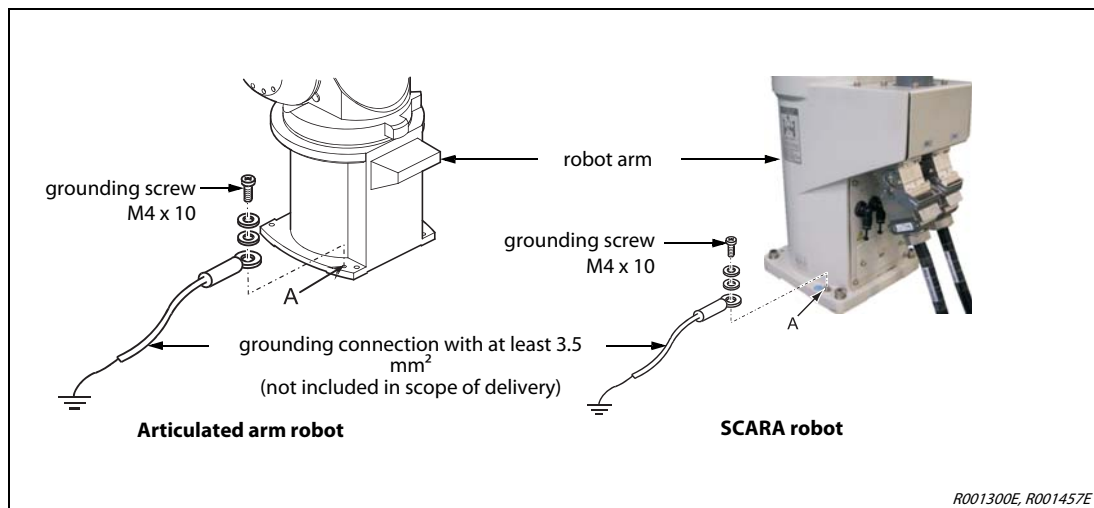

Fig. 3-19: Grounding the robot arm
- The robot arm is grounded at an M4 threaded hole (see Fig. 3-19) on the base area.
- ① Use a grounding cable with a minimum cross-section of 3.5 mm².
- ② Check the area around the grounding screw (A) for deposits and remove any using a file.
- ③ Fix the grounding cable with the grounding screw (M4 x 10) to the grounding connection of the robot arm (see here Fig. 3-19).